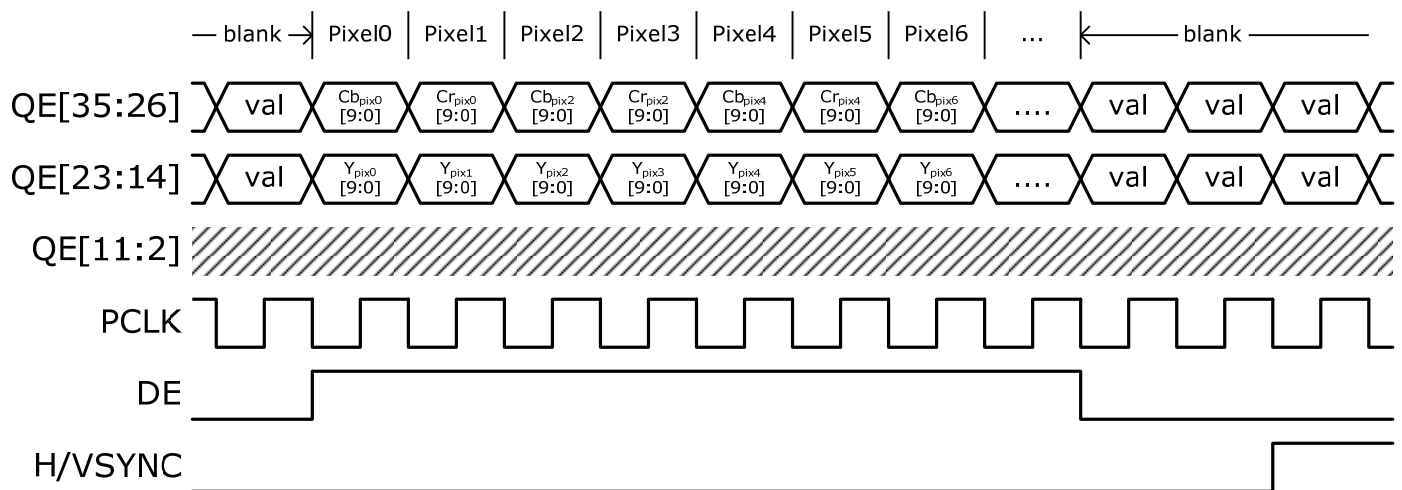

Figure 5. 20-bit YCbCr 4:2:2 with separate syncs
YCbCr 4:2:2 format does not have one complete pixel for every clock period. Luminance channel (Y) is given for every pixel, while the two chroma channels are given alternatively on every other clock period. The average bit amount of Y is twice that of Cb or Cr. Depending on the bus width, each component could take on different lengths. The DE period should contain an even number of clock periods. Figure 5 gives a timing example of 20-bit YCbCr 4:2:2.